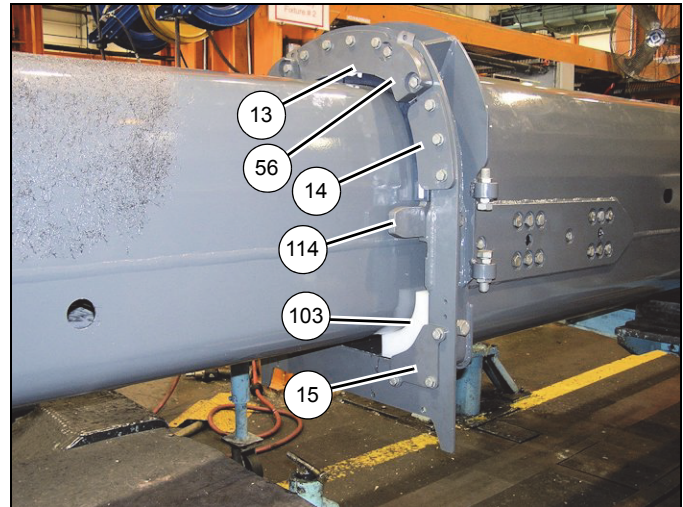

FIGURE 4-20
64. Extend tele 4 (5) one-quarter of the way out of tele 3 (4).
65. Remove the two bolts (58), four washers (16), two lock washers (17), and two nuts (18) securing the stop block (56) to the front of tele 3 (4) (left and right sides) (see Figure 4-20).
66. Remove the bolts (19), flat washers (16), lock washers (17), and nuts (18) securing the left, right, and bottom keeper plates (2x-14, 13) to the front of tele 3 (4) (see Figure 4-20).
67. Remove the front lower wear pads (101, 102) and shims (100) from the bottom of tele 3 (4).
68. Using an adequate lift and sling, slightly raise the front of tele 4 (5) for the purpose of removing the wear pads from the front of tele 3 (4).
69. Remove the three bolts (19), six flat washers (16), three lock washers (17), and three nuts (18) securing the keeper plate (15) to the front of tele 3 (4) (left and right sides) (see Figure 4-20).
70. Remove the two bolts (27) and nuts (28) securing the upper wear pad (103) to the front of tele 3 (4) (left and right sides) (see Figure 4-20).
71. Remove the two bolts (105) securing the anti-roll plate (114) to the inside of tele 3 (4) (left and right sides) (see Figure 4-20).